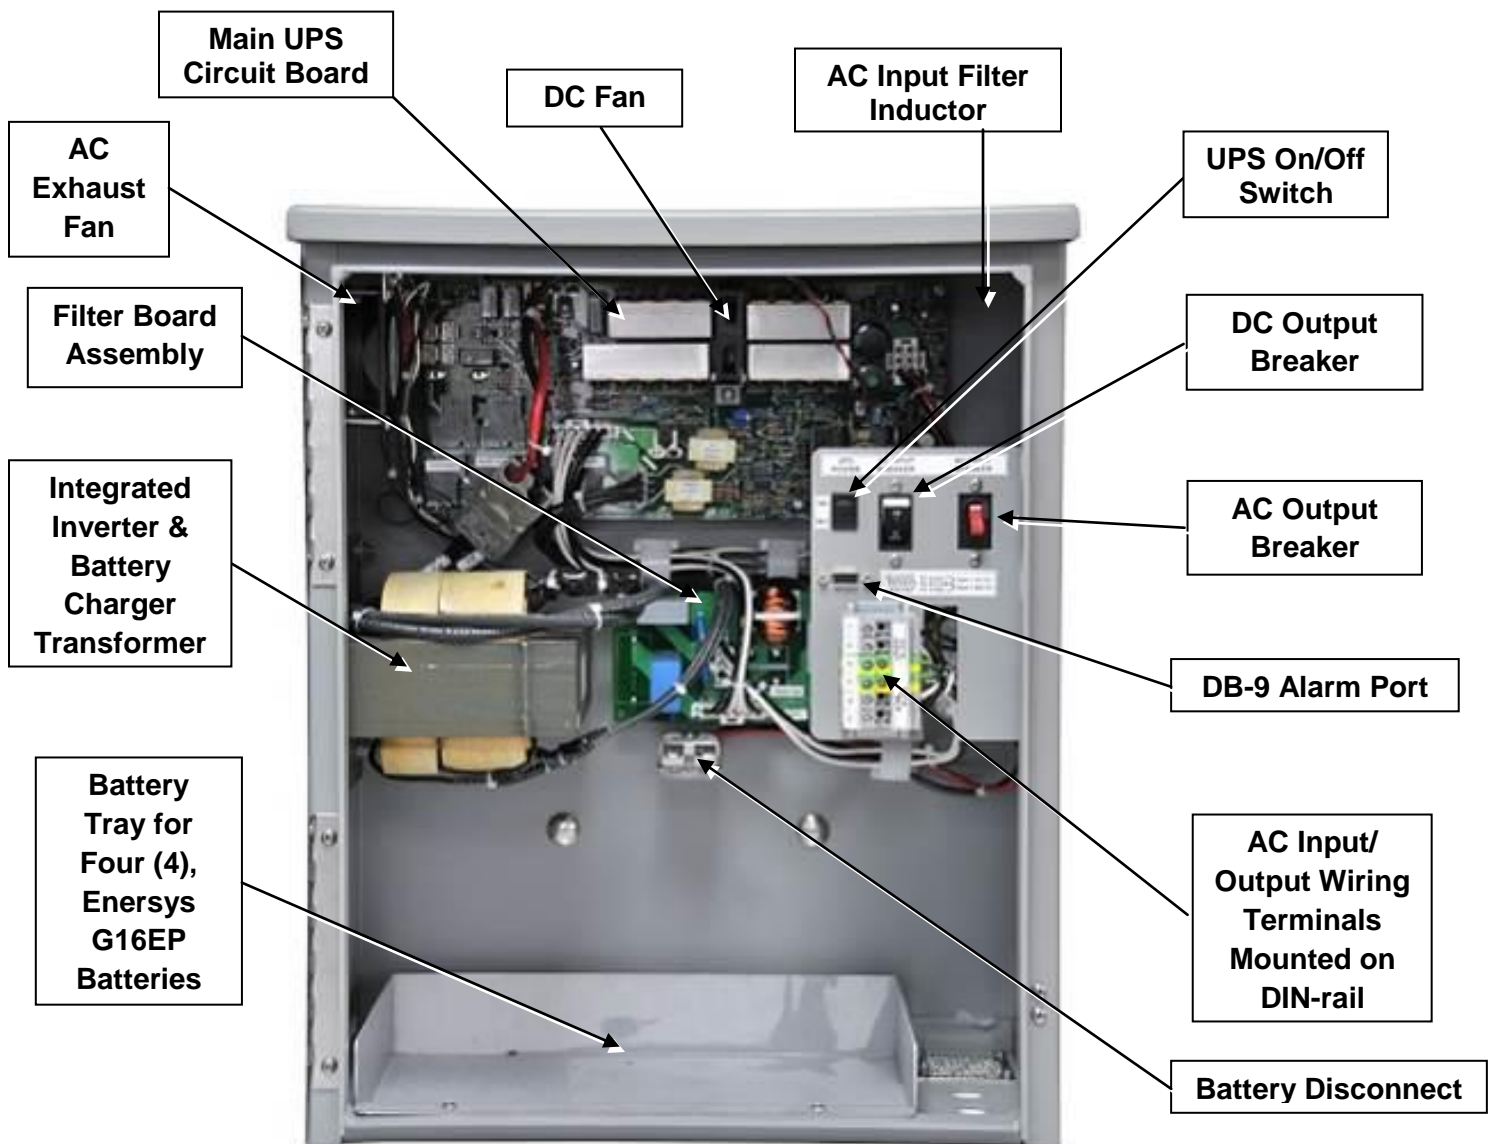
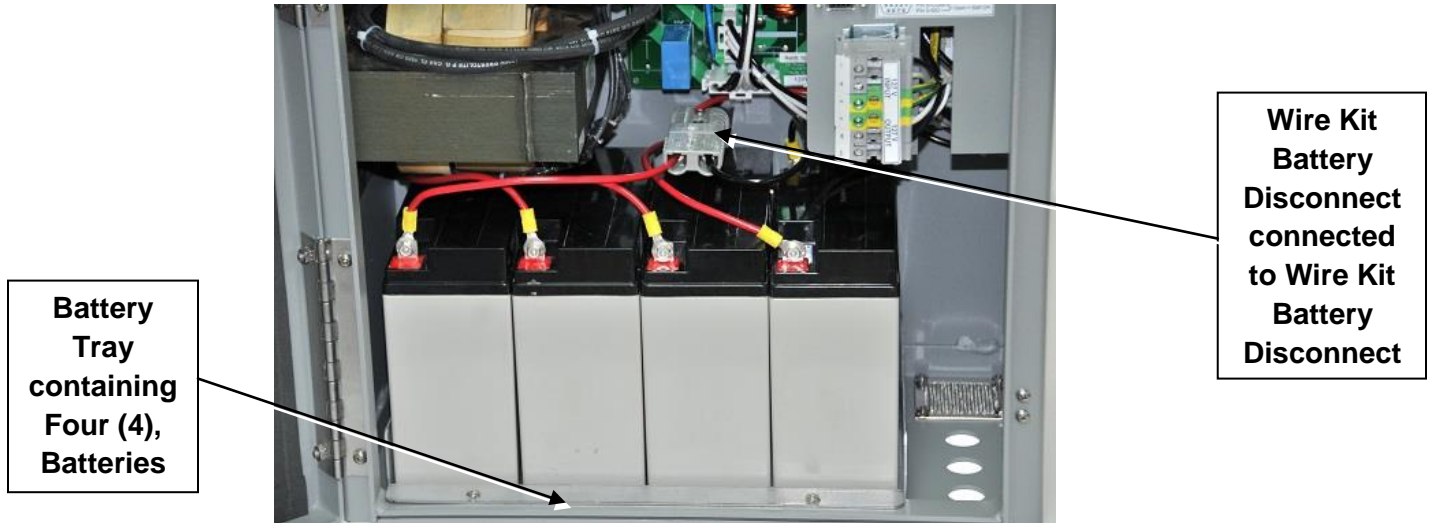

Figure 3: Electronic/Battery Compartment w/Door Open
Figure 13: Four (4), G16EP Battery Configuration Shown in Open Battery Compartment
1.7 FRONT ACCESS (Electronic/Battery Compartment) See Figure 3
Relay contact status alarm signals are available through the DB-9 Port (see Figure 9) located in the right side of the electronics compartment (see Figure 3). See below for the output signal assignment.
- Remove **Battery Tray** from XUPS (see Figure 3),
- Install Battery Tray with Batteries into the XUPS enclosure (see figure 13),
- Connect **Wire Kit Battery Disconnect** (see Figure 14) to **UPS battery Disconnect** (see Figure 3) as shown in figure 13,
7.21 The battery compartment accommodates four (4) 16 Ah, G16EP, EnerSys Batteries. See Figure 13.
- Remove **Battery Tray with batteries** from XUPS (see Figure 13),
- Connect **Wire Kit Battery Disconnect** (see Figure 14) to **UPS battery Disconnect** (see Figure 3) as shown in figure 13.